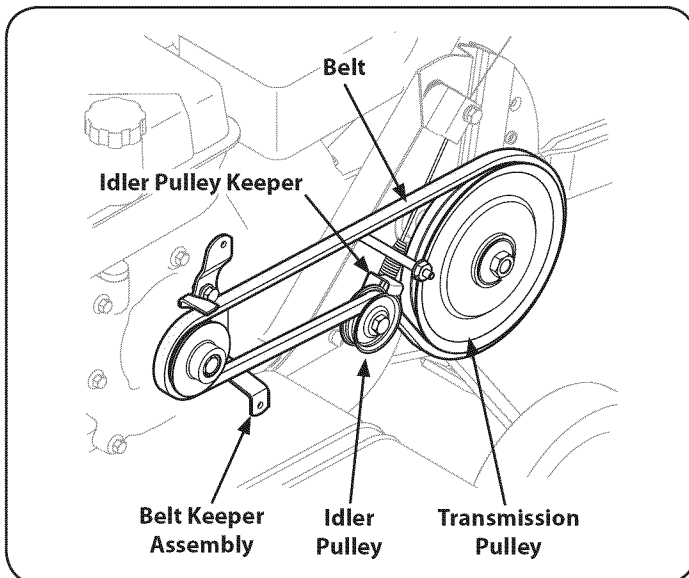

Figure 27
2. Remove the idler pulley bolt and move the belt from under the idler pulley keeper. See Figure 27.
3. Remove the belt keeper assembly located behind the engine pulley by removing the two hex bolts and lock washers. See Figure 27.
4. Remove the old belt from around the transmission pulley and install the new belt. See Figure 27.
**NOTE:** Upon reassembly, make certain that the idler pulley keeper is as shown in Figure 27. Take note of the notch on the bottom of the keeper and the alignment when reassembling with the replacement belt.